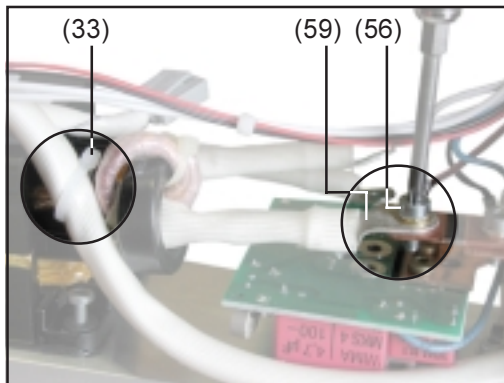

Fig. 8
- Fasten the transformer in place by means of the four M4x14 - TX20 screws (31) on the transformer
- Tighten the M4x14 - TX20 screws (31) with a torque of 2 Nm
- TP 1500 TIG: Fasten the transformer / gas-hose cable binder (33) (Fig.8)